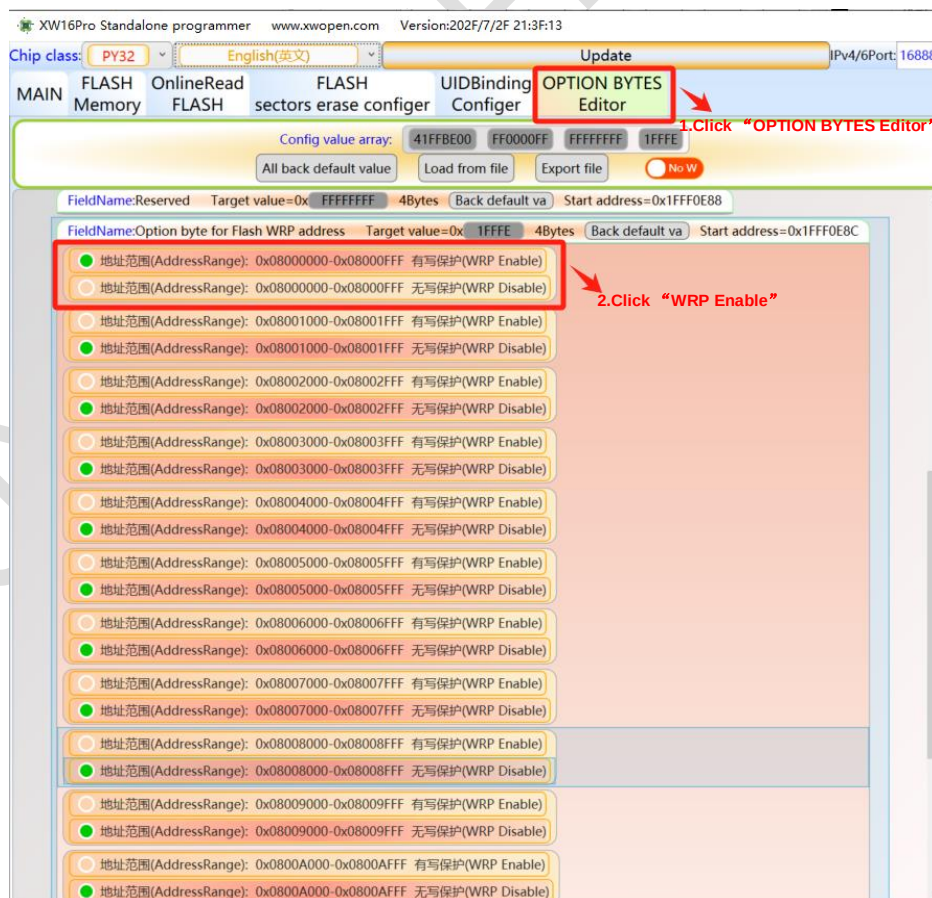
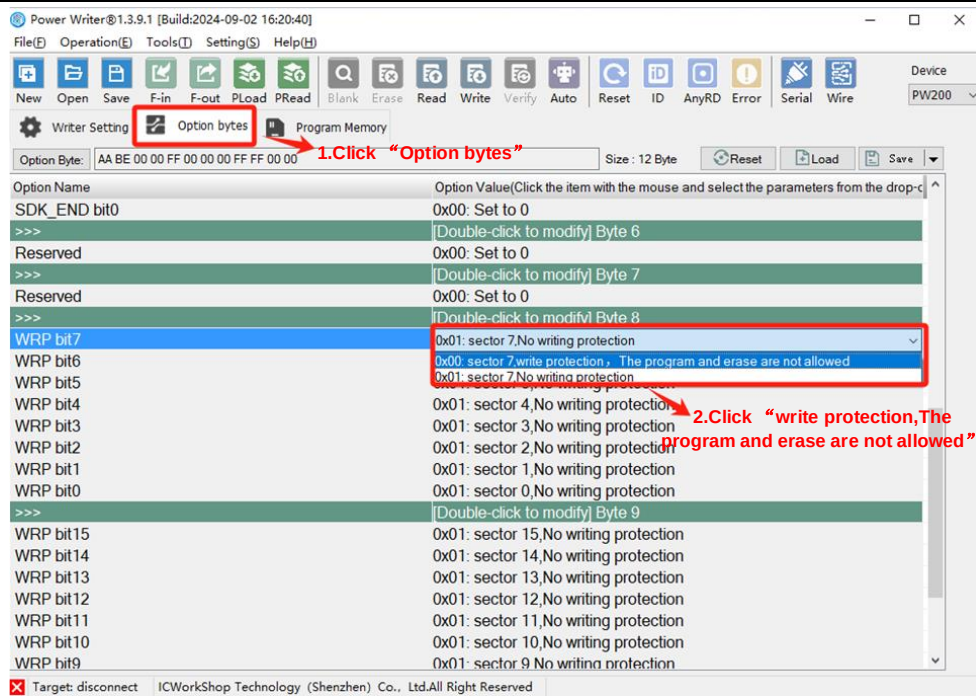

Figure 11-1 XW operation Option write protection
Figure 11-2 Power Write Operation Option Write Protection
- It is recommended that the customer program enables write protection, which is set in Option, as shown in Figure 11-1 and Figure 11-2.